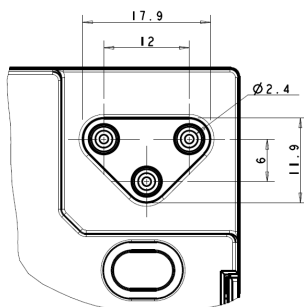

Fig. 4
- B:** supply with triangular outlet type SP1 (Fig. 4);